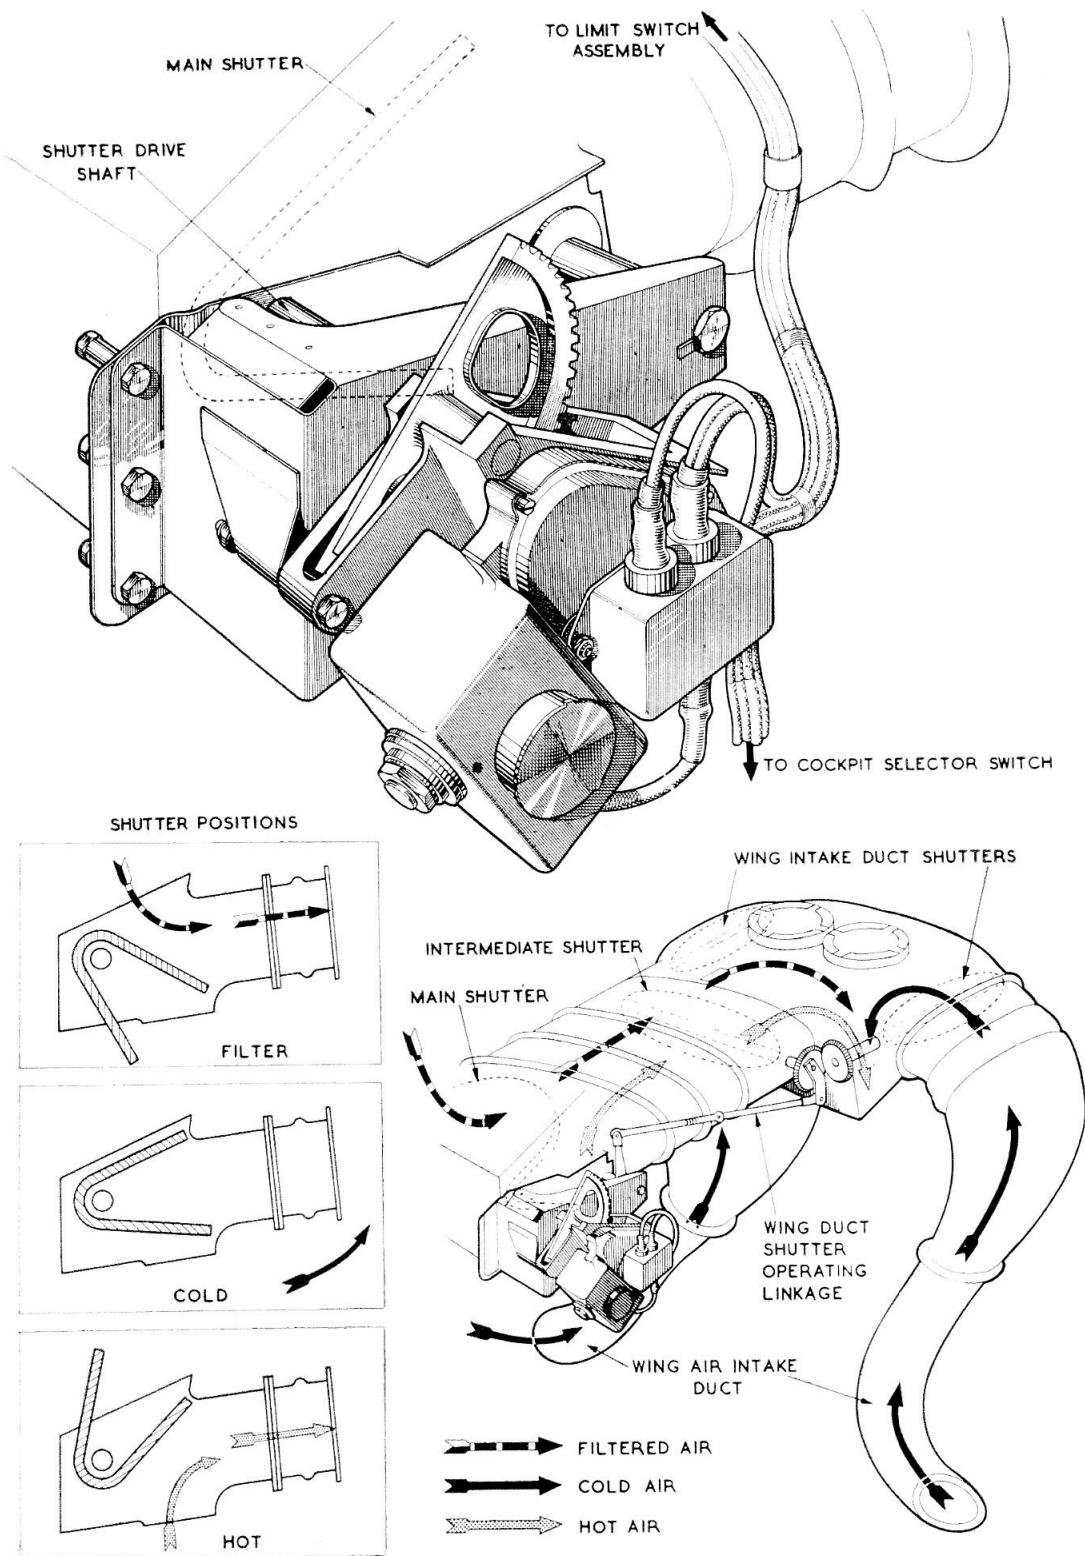

Fig. 1. Motor and gearbox (top), and air flow circuits (bottom)
11. Contained in the shutter box is a V-shaped shutter (*fig. 1*), which, according to its position, allows hot, or filtered air to pass to the carburettor of the engine. The shutter is mounted on the shutter drive shaft driven by the motor and gearbox.
12. Cold air from the carburettor is ducted from an air intake port in the leading edge of each main plane, and does not pass through the shutter box. When cold air is being fed to the carburettor, the shutter box is blanked off by an intermediate shutter (*fig. 1*) located some six inches forward of the V-shaped shutter, previously mentioned. All hot and filtered air is, thus, excluded from the carburettor.
**14.** Referring to fig. 1 (top inset) the V-shaped shutter is seen in the FILTER position. Air enters a louvres in the rear panel of the engine cowling, passing through filter trays into the duct head, thence to the carburettor. The hot air intake is sealed off by the upper arm of the shutter, and all cold air is excluded from the system by the wing intake duct shutters which are closed. Thus, filtered air only is fed to the carburettor.
**15.** When a cold air supply to the carburettor is required, the motor may be operated to bring the shutter in the shutter box to a position where it blanks off both the hot and filtered air intakes (fig. 1—centre inset).
**16.** Air, which has been heated in passing between the engine cylinders, enters at the bottom of the shutter box when the shutter is moved to the position shown in fig. 1 (bottom inset). As illustrated, the filtered air intake is blocked. The wing intake shutters are also closed, sealing off the cold air supply.